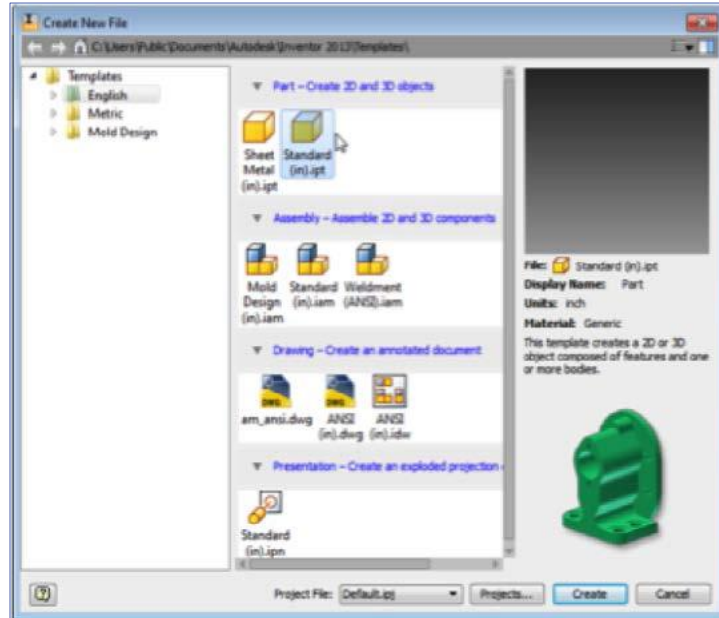

Figure 4
1. Open a new imperial part from the Application menu or from the Get Started tab on the ribbon (Figure 4).